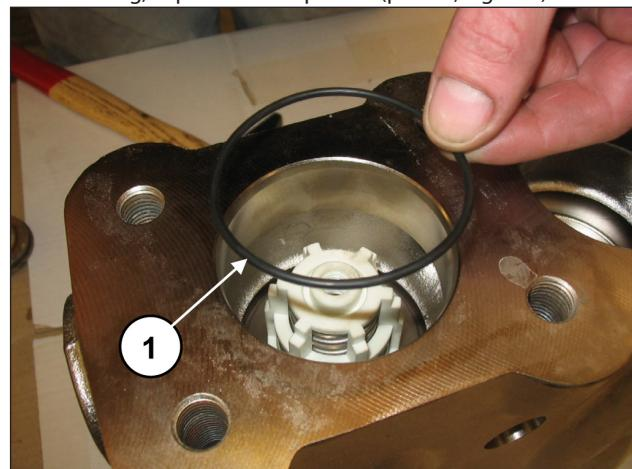

Fig. 127
Fit the O-ring, exploded view pos. 17 (pos. ①, Fig. 127).